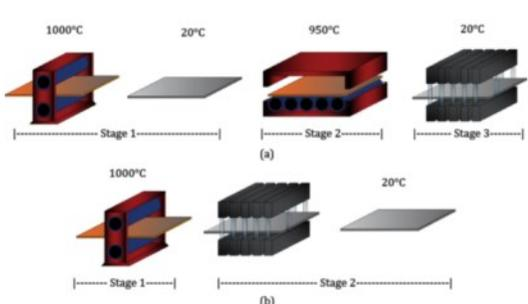

Figure 1. (a) Traditional QT technique (b) direct quenching technique (DQ)
The ultra-high strength of UHS steel materials is basically obtained by fast quenching techniques either in water or oil. The most applied method used for manufacturing the UHSS materials is the traditional quenching and tempering technique (QT). During this process, the material is quenched rapidly in several stages either in water or oil. Thus, through a final heat treatment, the steel is reheated to moderate temperatures for a short time [8]. This process is called tempering, by which a certain level of the ductility of steel is recovered. In recent years, a unique manufacturing process called the direct quenching technique (DQ) has been proposed by steel manufacturers [4]. Unlike the traditional QT technique where the material is quenched in several stages, in direct quenching method the material is quenched only in one stage. In Figure 1, the two techniques are compared by schematic diagrams. This article aims to report the mechanical properties of UHSS manufactured by the DQ techniq